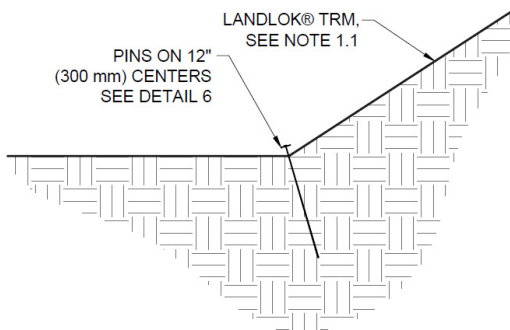

Figure 16: Break in Slope Interface
- At the break in slope interface towards the channel bed, it is suggested that Pins be installed on 12 in (300 mm) centers (Figure 16).